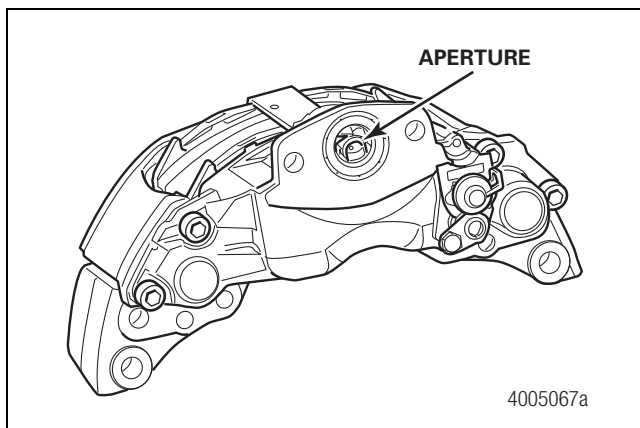

Figure 8.4
7. Visually inspect the chamber-mounting aperture on the caliper housing assembly for signs of water entry and corrosion. Figure 8.4.